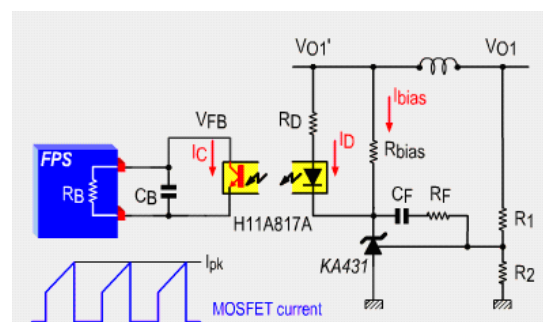

Figure 14. Typical Feedback Network of FPS
When FPS acts in Burst mode and the Burst operation is suspected to be a source of noise, this method may be helpful. If the frequency of Burst mode operation lies in the range of 2~4 kHz, adjusting feedback loop can shift the Burst operation frequency. In order to reduce the Burst operation frequency, increase a feedback gain capacitor (CF), opto-coupler supply resistor (RD) and feedback capacitor (CB) and decrease a feedback gain resistor (RF) as shown in Figure 14. Typical Feedback Network of FPS.